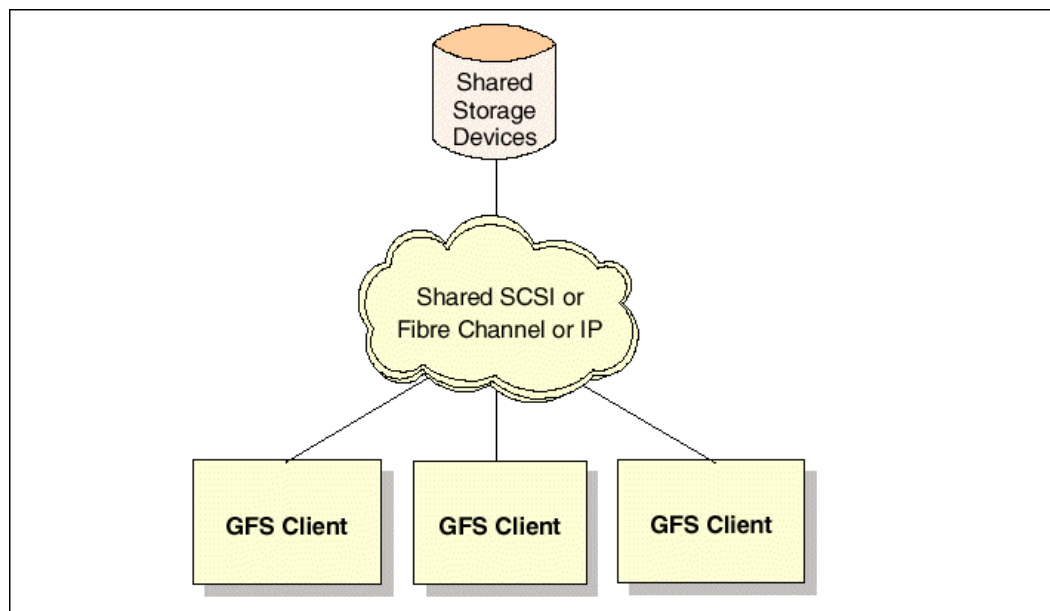

Figure 4-12 Global FileSystem
GFS implements the sharing of storage devices over a network. This includes Shared SCSI, Fibre Channel (FC), and Network Block Device (NBD). The Global File System sitting on top of these storage devices appears as a local file system for each box (Figure 4-12).